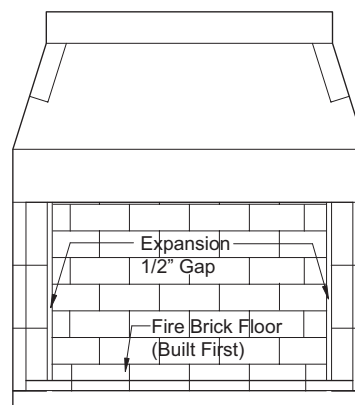

FIGURE 65
4. Next, apply firebrick to the back wall of the unit. The back wall firebrick covers the 1/2" expansion gap left at the brick floor along the back wall of the firebox. **(Figure 65)**